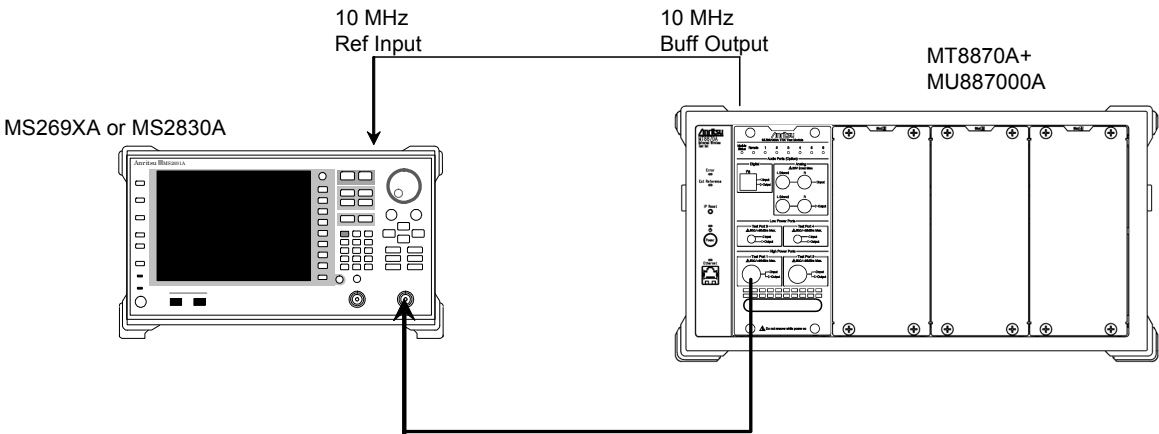

Figure 6.3.4-1 Output Rho Measurement Setup
1. (Setup the instruments as shown in Figure 6.3.4-1.
2. Select the signal analyzer (SA) measurement software and set the following: